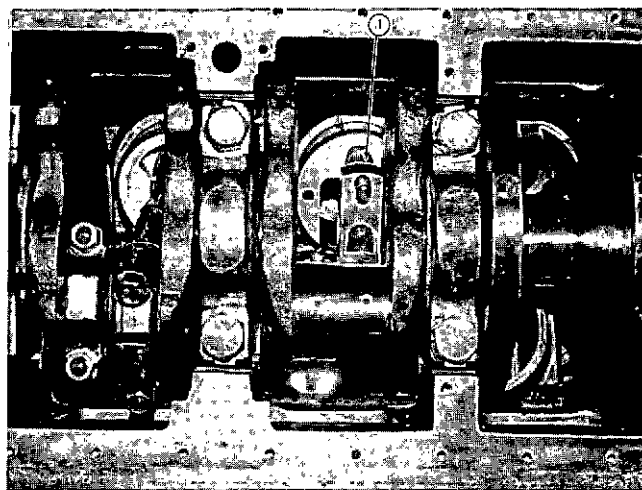

Fig. 0-42, V40075. Removing piston, rod and liner
5. With crankshaft at bottom of rod throw travel, position ST-414-1 Ram (1, Fig. 0-42) over rod journal.